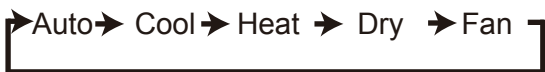

Figure 3.5
2) Press  each time to change the operating mode according to the order shown in Figure 3.5;